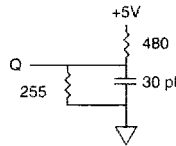

Fig. 1 OUTPUT LOAD EQUIVALENT
Output load	See figures 1 and 2
5. Test conditions as specified with the output loading as shown in Fig. 1 unless otherwise noted.